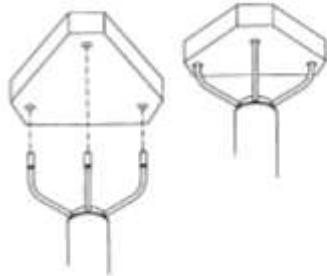

Figure 14 Ventiler
Perform periodic testing to detect slow deterioration of the sensor before it significantly affects accuracy. Perform the test either in the field or in a laboratory. The periodic test uses the ventiler, which is a small actuator device. The ventiler is shown in Figure 14 on page 72.
1. Slip the ventiler over the three transducers (see Figure 14 on page 72).